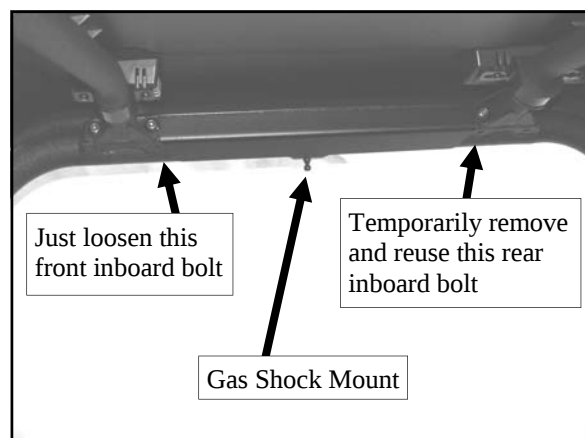

Fig. 7.1 (View of inner right side)
7.1 See fig. 7.1. Slide the open-ended slot on the Gas Shock Mount under the head of the front loosened bolt. Reinstall the rear bolt through the Gas Shock Mount bolt hole. Torque both bolts to 47 ft.-lbs. (64 N-m) at this time. Repeat for left side.